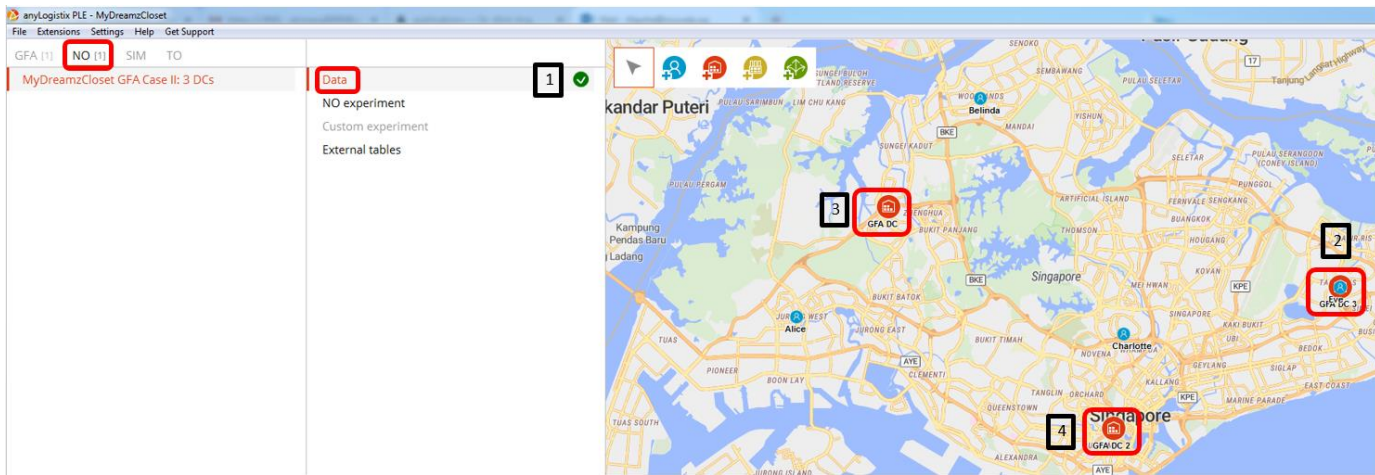

Figure 46: NO Data Input
- ✓ Figure 46 shows the NO Data input screen right after GFA has been converted to NO.